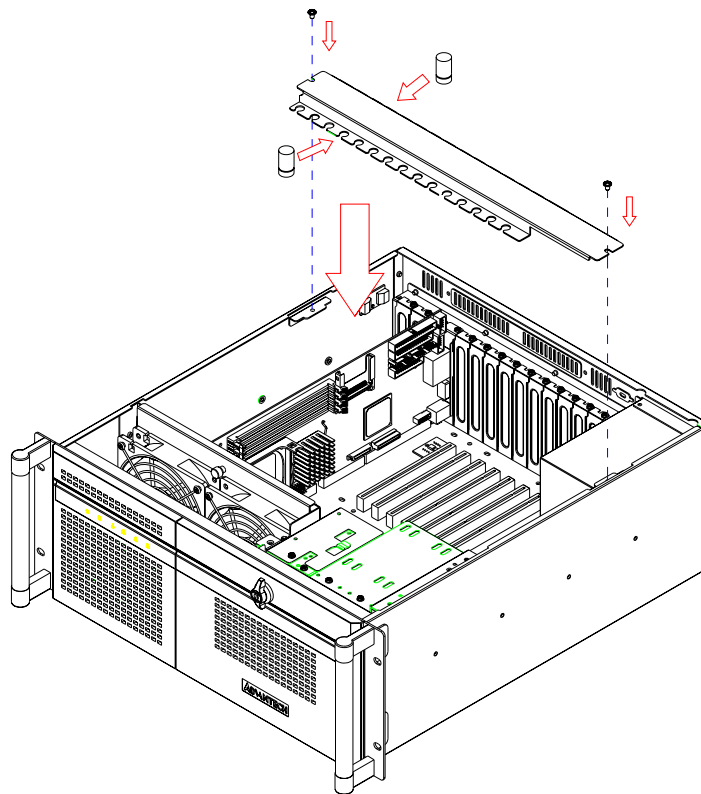

Figure 2.6: Installing rubber cushions and hold-down clamp
1. There are two rows of notches on both sides of the hold-down clamp for inserting into rubber cushions provided. One side is for PCI cards, while the other side is for ISA cards. Depending on the card height, the cushions can be inserted upward or downward. After the rubber cushions have been inserted into the notches, they will stabilize the add-on cards to protect them from shock and vibration. (see Figure 2.6)